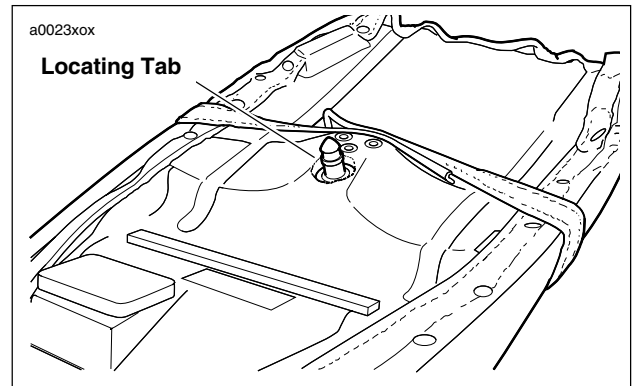

Figure 2-107. Underside View of Seat
1. See Figure 2-107. Locate tab on bottom of seat.